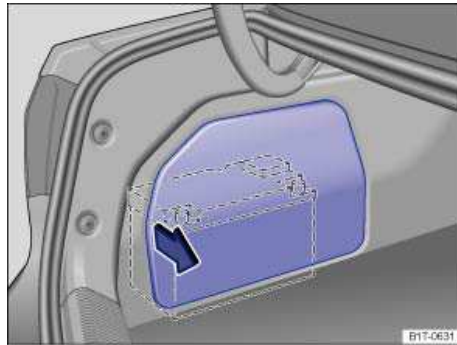

Fig. 186 In the side of the luggage compartment: On vehicles with 3.6 liter engines, the vehicle battery is on the left side of the luggage compartment.
- On vehicles with 3.6 liter engines: Remove the trim panel to access the vehicle battery ⇒ fig. 186